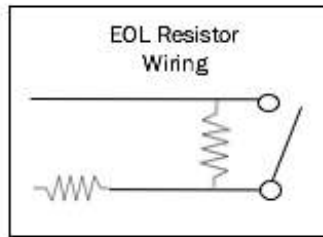

Figure 21 - EOL Resistor Wiring
- e) The other wire from the ACS6000 is connected to wire 2 from the switch, as shown in Figure 21.